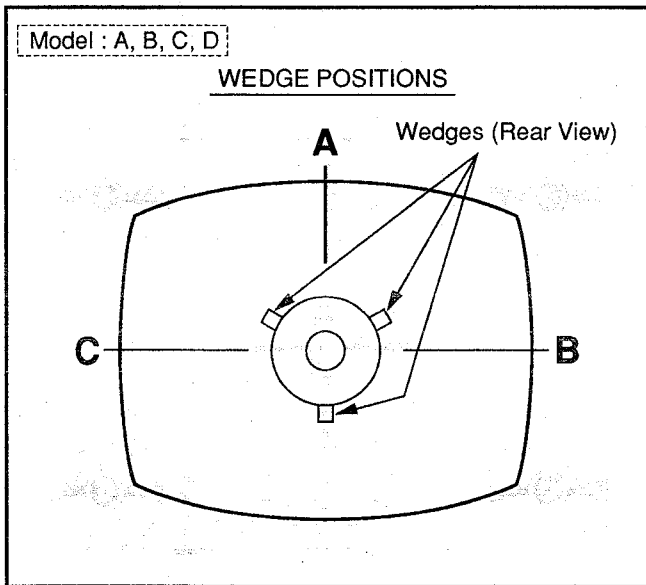
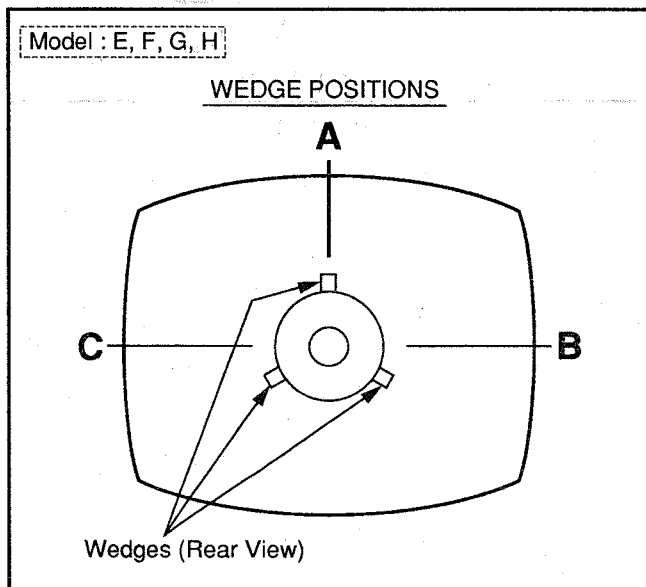

Fig. E15-1
Fig. E15-2
4. Insert three wedges as shown in Fig. E15-1 : Model A, B, C, D or Fig. E15-2 : Model E, F, G, H to maintain the correct crosshatch pattern position.